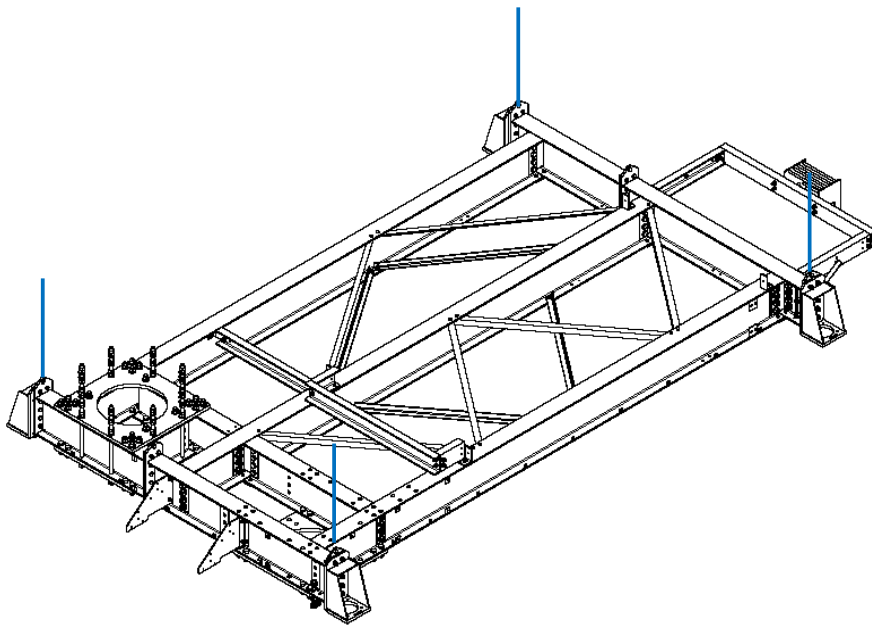

Figure 3 – Fully assembled Space Saver frame with slings (in blue colour) attached to lifting lugs for lifting.
- Secure the lifting slings to the lifting lugs as shown in Figure 3.